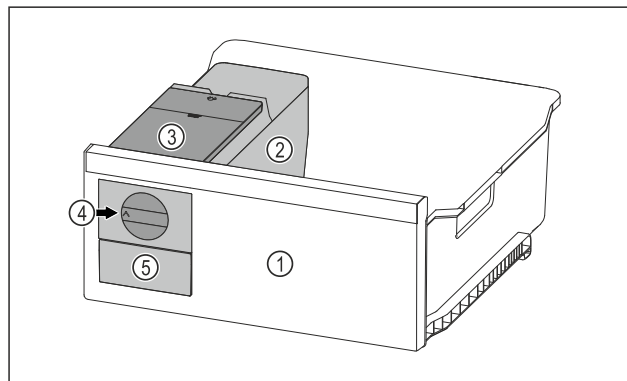

Fig. 143 Example illustration
- Turn the rotary knob Fig. 143 (4) clockwise as far as it will go.
- Ice cubes fall from the ice cube tray into the ice cube drawer Fig. 143 (5).